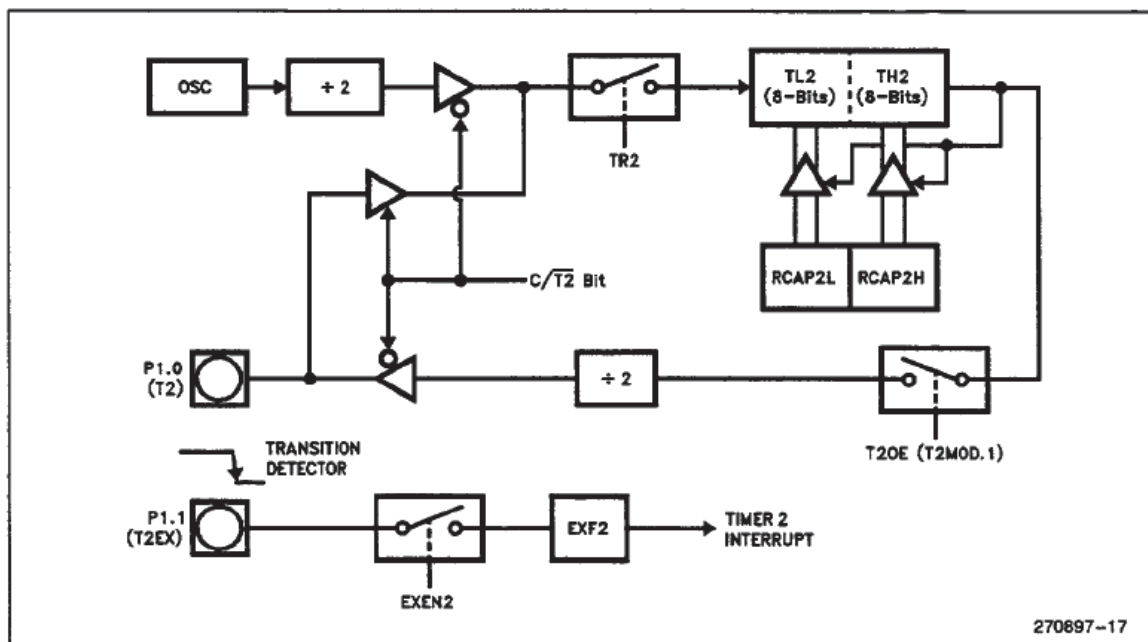

Figure 15. Timer 2 in Clock-Out Mode
The 87C51GB has a new feature. A 50% duty cycle clock can be programmed to come out on P1.0. This pin, besides being a regular I/O pin, has two alternate functions. It can be programmed (1) to input the external clock for Timer/Counter 2, or (2) to output a 50% duty cycle clock ranging from 61 Hz to 4 MHz at a 16 MHz operating frequency. Figure 15 shows Timer 2 in clock-out mode.